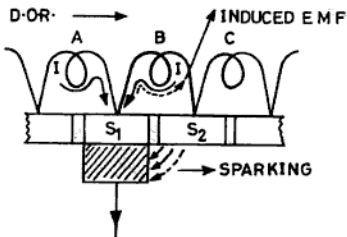

Fig. 7.38 After short circuit
**After Short Circuit** In Fig. 7.38, the brush contacts segment  $S_1$  alone. Therefore,  $I$  A